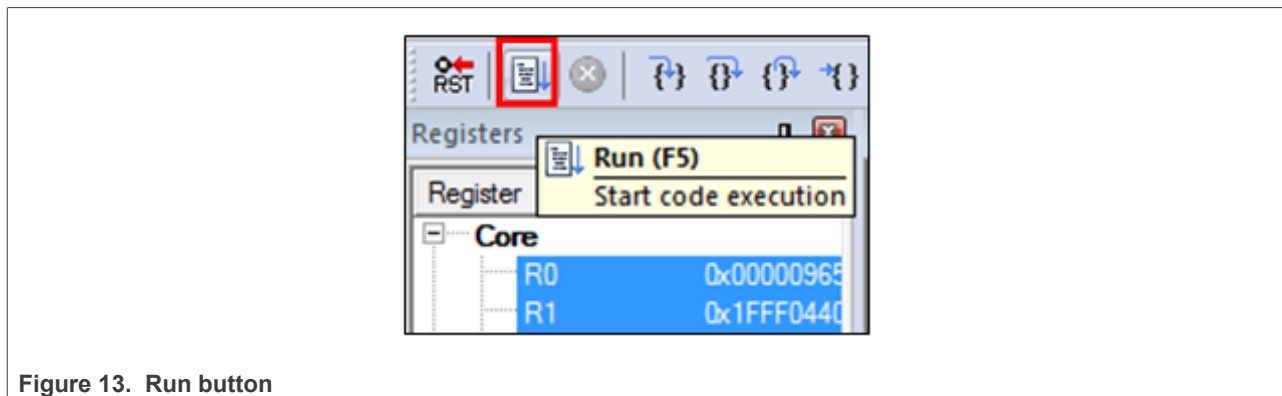

Figure 13. Run button
- Run the code by clicking **Run** to start the application, as shown in Figure 13.